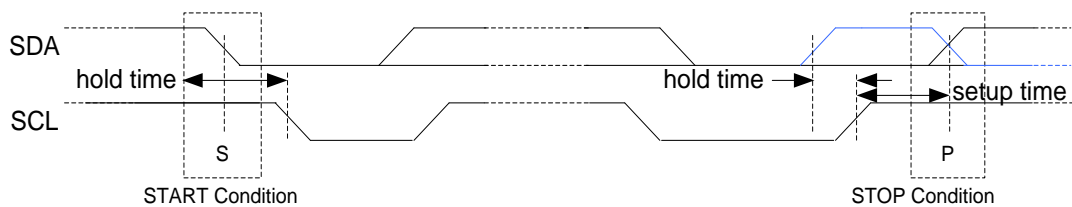

Figure 30. START and STOP (or repeated START, blue line) condition
An idle I2C bus state occurs when both SCL and SDA are not being driven by any master and are therefore in a logic HI state due to the pull up resistors. Every transaction begins with a START (S) signal and ends with a STOP (P) signal. A START condition is defined by a high to low transition on the SDA while SCL is high. A STOP condition is defined by a low to high transition on the SDA while SCL is high. START and STOP conditions are always generated by the master. This slave module also supports repeated START (Sr) condition which is same as START condition instead of STOP condition (the blue-color line shows repeated START in Figure 30).